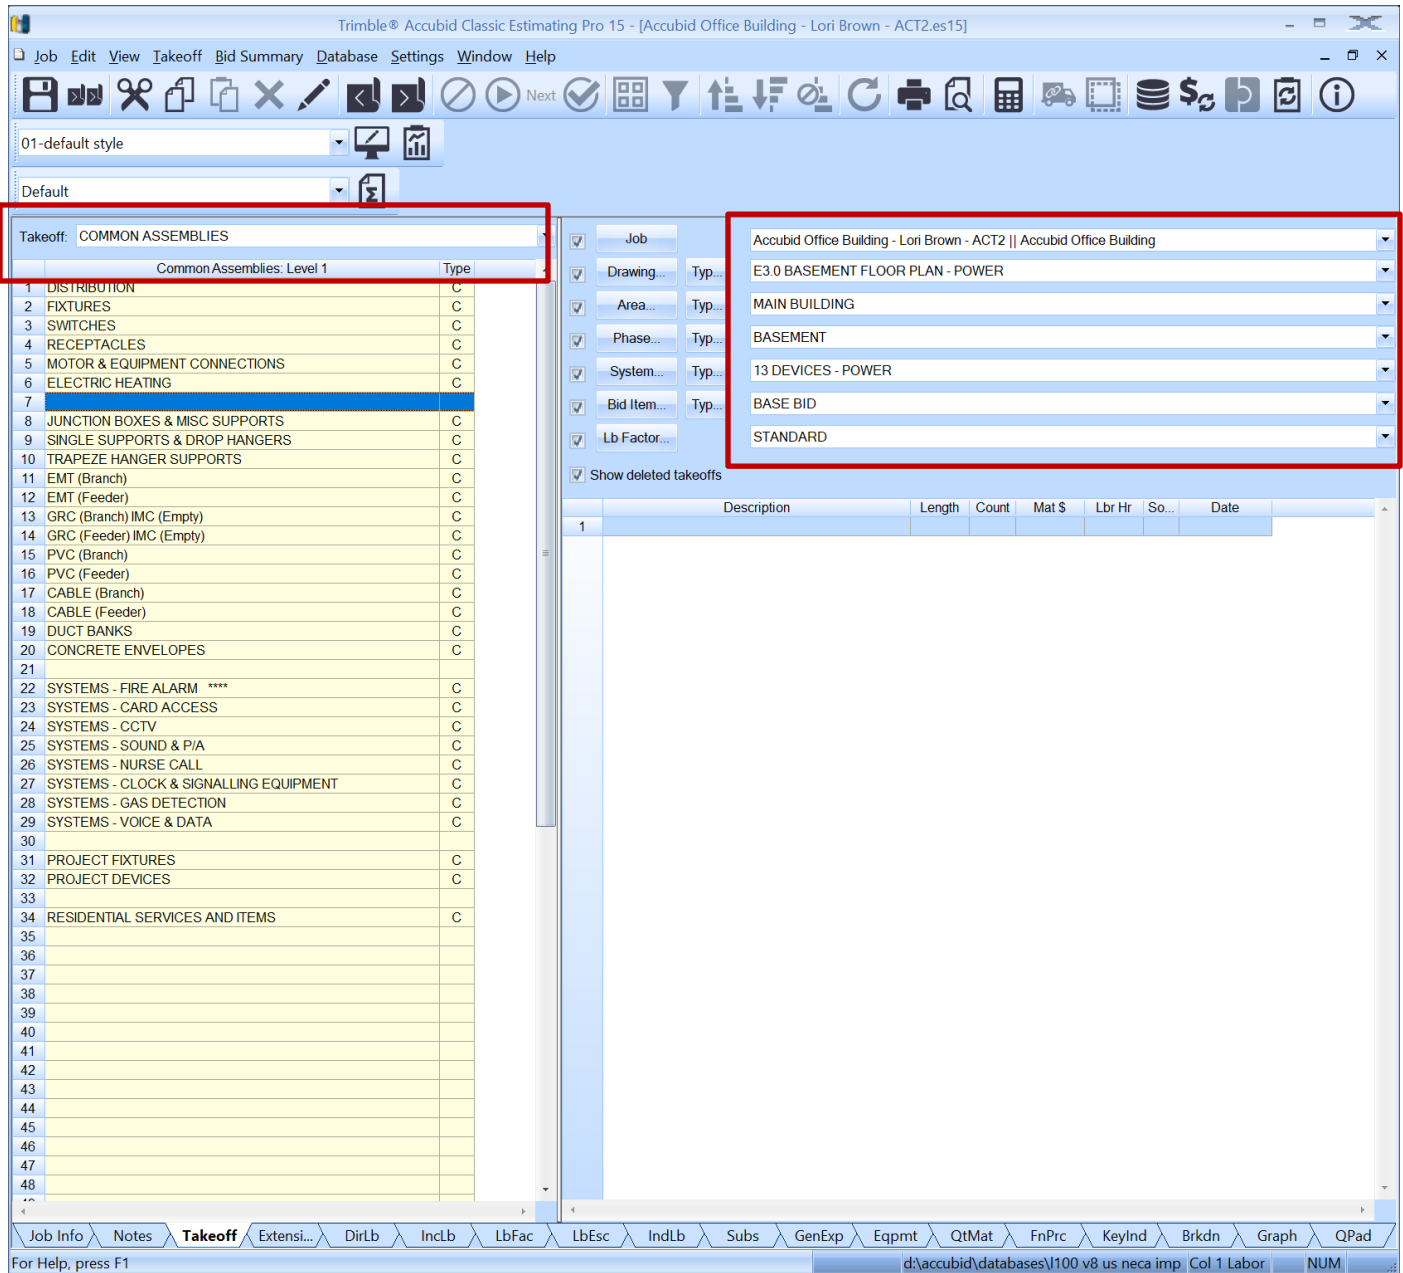

Figure 8
2. Set the Breakdown as shown in Figure 8.